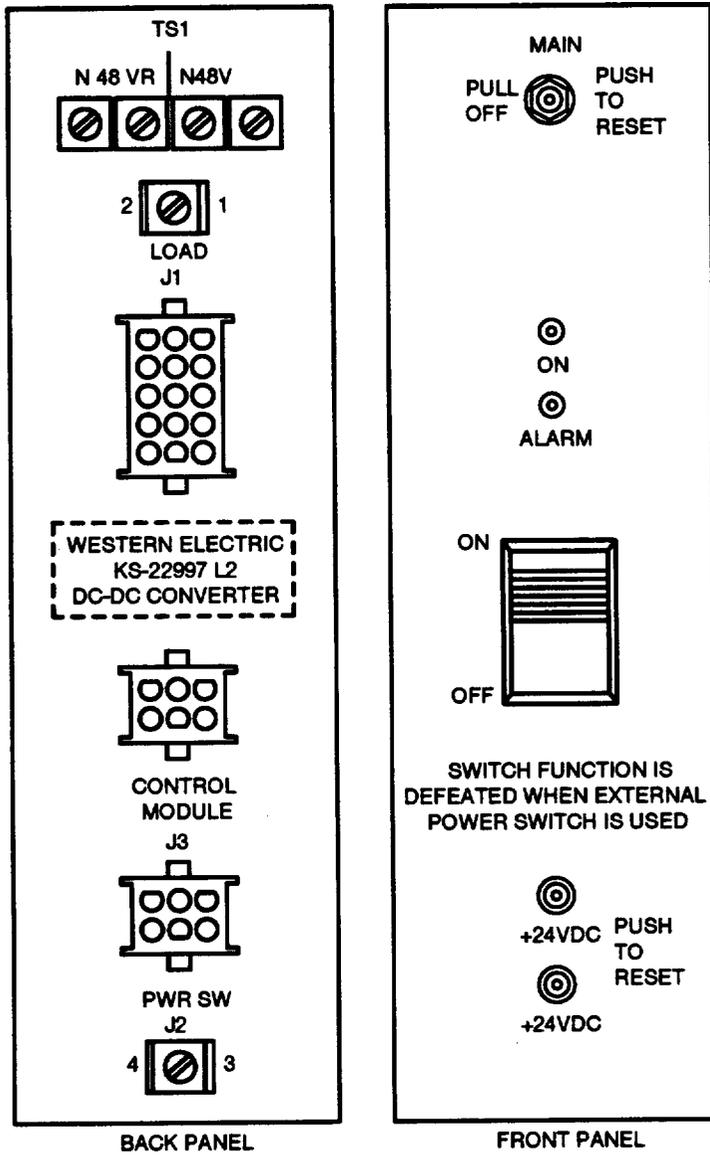

Figure 12. KS-22997, L2 Power Supply
- 5.02** Input power and chassis ground connections are made via six wide male faston connectors, located on the units back panel. Of these six connectors, one lug is for the -48 volt input (N48V), one lug is for the +48 volt return (N48VR), and four lugs are for chassis ground connection. Output voltages are brought out via J1, a 15 pin connector, and J3, a 6 pin connector. Control lines are brought out via J2, a 6 pin connector. Figure 12 shows these connectors at the back of the power supply.
- 5.03** The units front panel has a 12 ampere main circuit breaker for input power and two 3.0 ampere circuit breakers for +24 volt output protection. The front panel also has a local power switch, a green "power on" indicator, and a red "alarm" indicator (Figure 12).